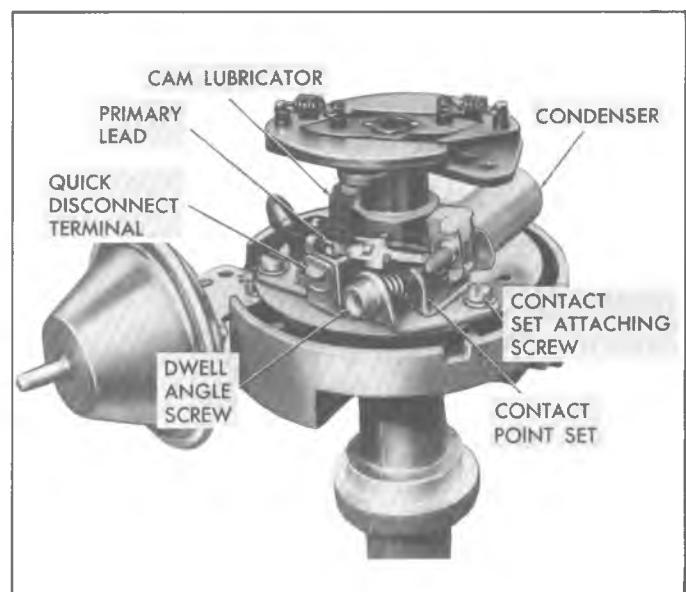

Fig. 14i—Distributor Lead Arrangements
4. Disconnect the primary lead from the nylon insulated terminal (fig. 14i).
CAUTION: *Install the primary lead as shown in Figure 14i. Improper installation will cause lead interference between the cap, weight base and breaker advance plate.*